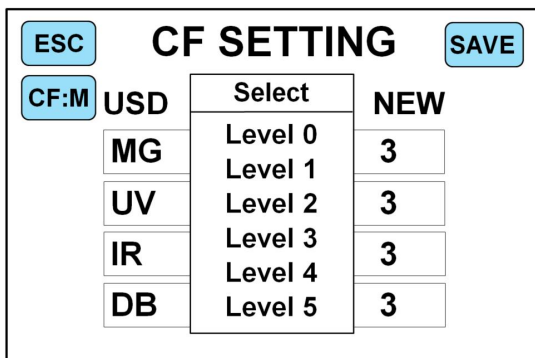
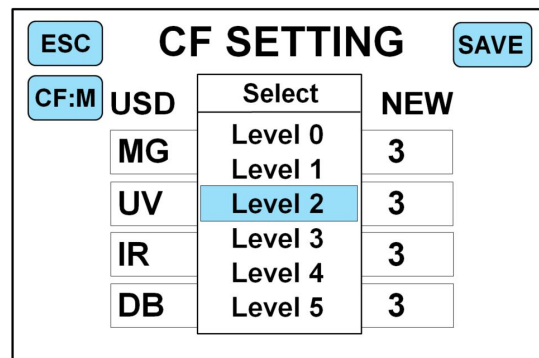

Figure 40
Figure 41
b) Touch the value 3 in the NEW row corresponding to MG, and the following interface appears, as shown in Figure 40. Each counterfeit capacity has 6 positions from 0 to 5. 0 represents closed counterfeit capacity, 1 represents the weakest counterfeit capacity and 5 represents the strongest counterfeit capacity. At this point, the gear Level of MG's counterfeit capacity needs to be reduced, so touch "Level 2" to set the gear value to 2, as shown in Figure 41.